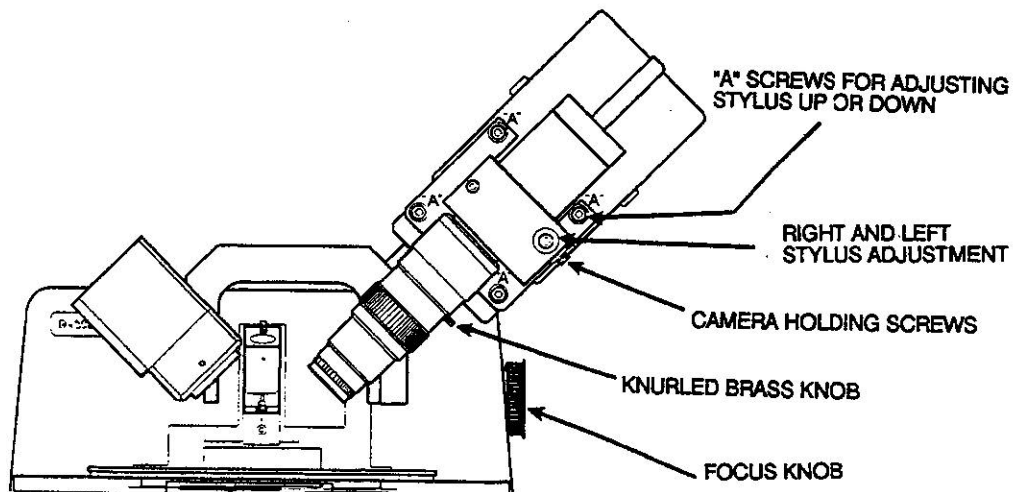

Figure B-2. Zoom Optics Adjustments
2. To adjust the stylus position right and left on the CRT, loosen the two #8-32 cap screws (see Figure B-2) and adjust front or back by turning #8-32 cap screw in front. Tighten screws.